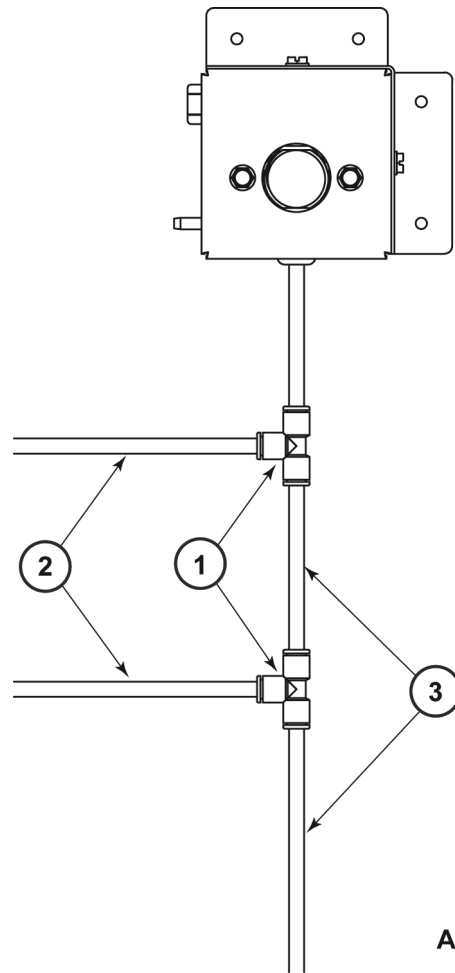

Fig. 69
NOTE: An additional tee (1, Fig. 69) and a 40-inch piece of poly tubing (2, Fig. 69) are supplied for each additional duct.
4. Run a piece of poly tubing (3, Fig. 69) (length varies, depending on the size of the proofer) to each duct in series, and connect with tee fitting. The last duct will not connect using a tee, but will connect into the tee of the previous duct.